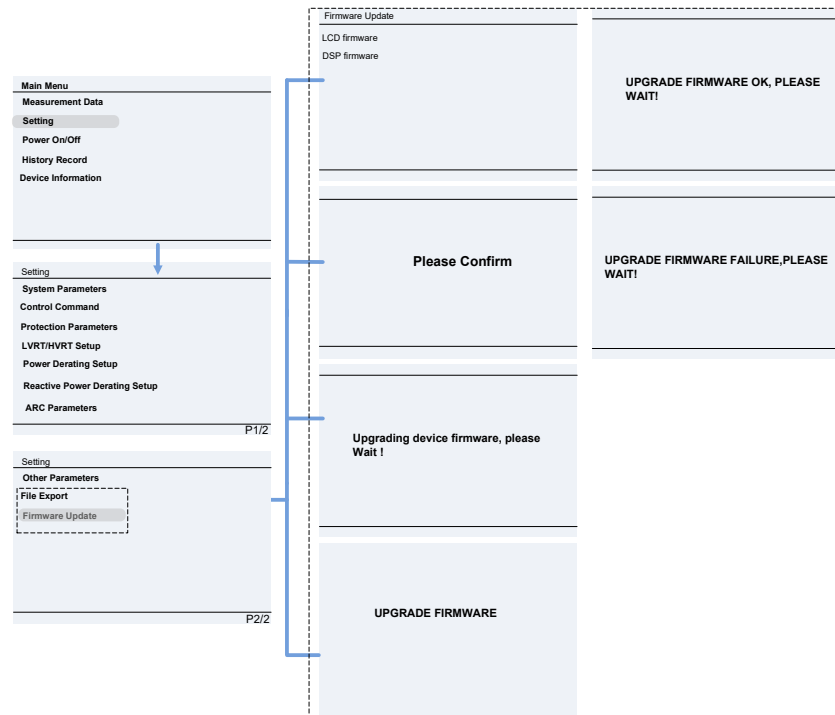

Figure 7-16 Firmware Upgrade Interface
4. Using the same password to enter the **SETTING** menu and select “Firmware Update”. Choose the firmware to be updated (LCD or DSP) and follow the prompts on the screen. See Figure 7-16.